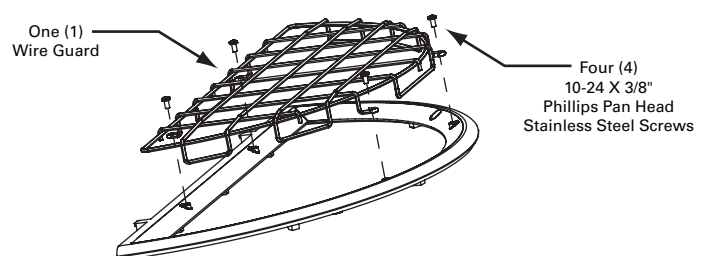

FIG. 2
1. Line up the wire guard with four [4] holes in the door as shown in **FIG 2**.